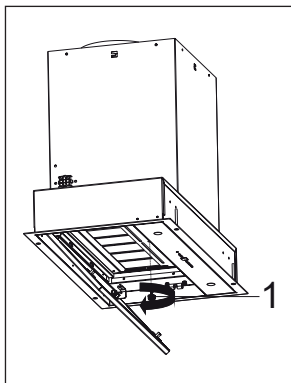

Fig. 8
4. Remove the connection screw of the carbon filter (Fig. 8) by turning in the direction of the arrow.